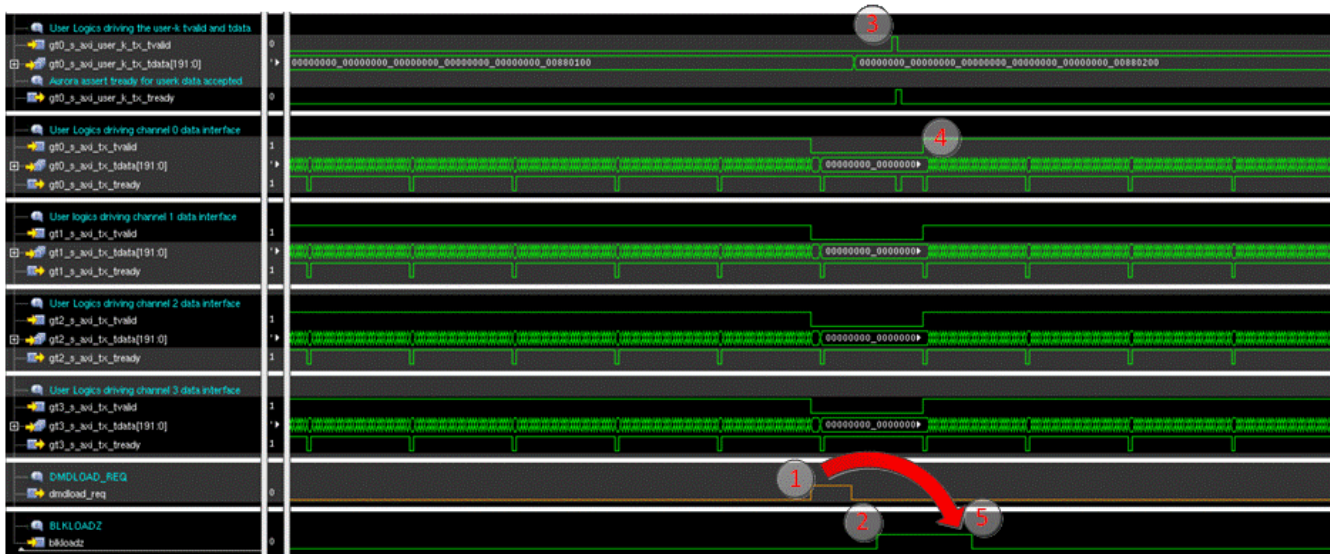

Figure 7-5. End of Block DMDLOAD_REQ Assertion Followed by New Block Control Word Waveform
- Refer to Figure 7-5. In most cases, after the APPS FPGA user logic has completed the transfer of the current data block, it may find that the DLPC964 Controller is still loading the previous block to the DMD (i.e. BLKLOADZ is low). If this occurs, the APPS FPGA can still assert DMDLOAD_REQ while BLKLOADZ is low. The DLPC964 Controller will detect and store the DMDLOAD_REQ request and perform the data load as soon as the transfer of the previous data block is complete.
be taken by the APPS FPGA to avoid overrunning these two buffers. Refer to Figure 7-5. After completing the current Aurora data transfer of block data and asserting the DMDLOAD_REQ signal, the APPS FPGA must wait for the de-assertion of BLKLOADZ by the DLPC964 Controller (i.e. BLKLOADZ transition from low to high) before starting the next block data transfer. De-assertion of BLKLOADZ indicates that the DLPC964 Controller has completed the DMD data loading operation for previous block, and a data buffer is freed up for accepting a new data block from the Aurora interface. The buffer will be overrun and data will be incorrectly loaded to the DMD if the APPS FPGA does not synchronize the Aurora block data transfer with BLKLOADZ signal de-assertion.